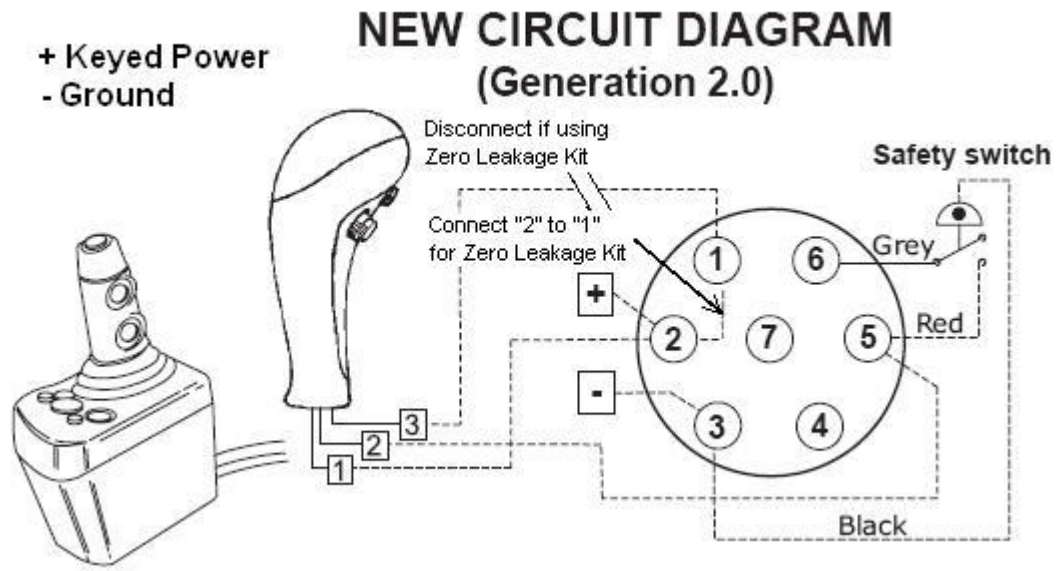

Figure 4 Wiring diagram for Zero Leakage Kit
4. Wire implement plug as shown in figure 4 below. Disconnect Joystick Wire 3 from implement plug and connect terminal “2” to terminal “1” using a short jumper wire.